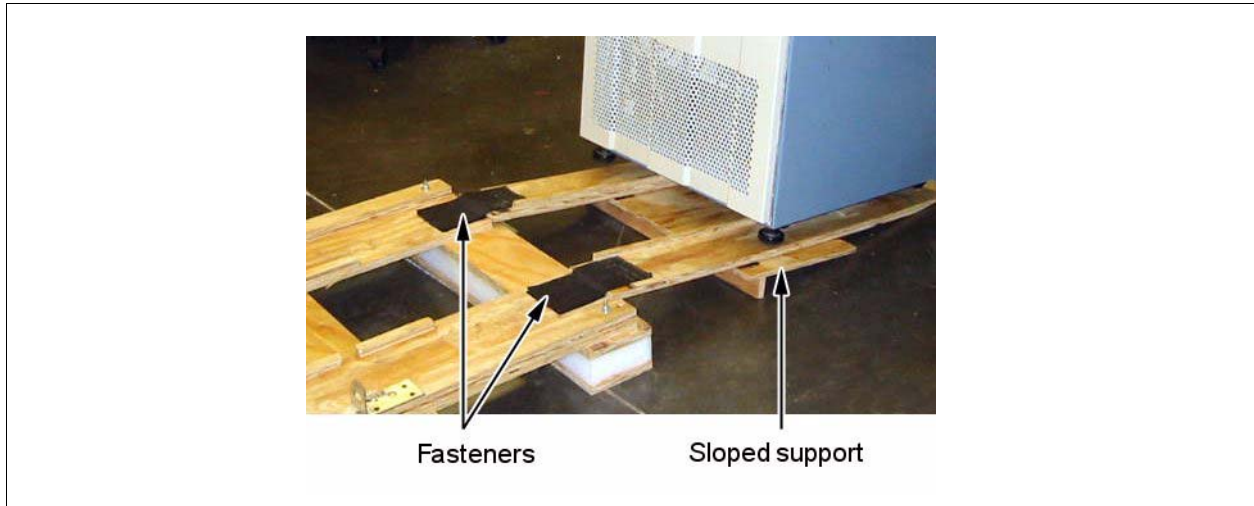

Figure 1-4: Pallet Ramps
- 11** Attach ramps to pallet using loop and hook fasteners and slide the sloped support underneath the ramps. See Figure 1-4.